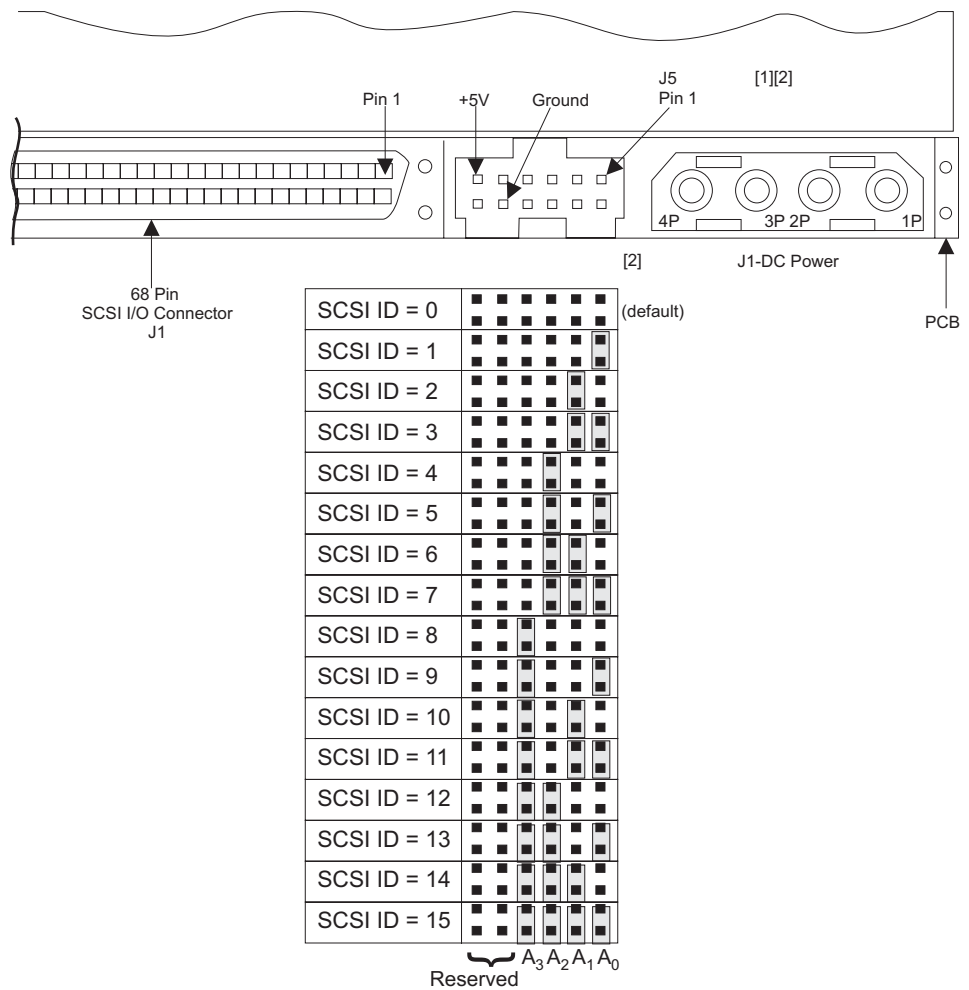

Figure 123. SAN Volume Controller 2145-4F2 disk drive jumpers
9. Check whether the old disk drive has any jumpers installed. If it does, install matching jumpers onto the new disk drive. Figure 123 shows the location of the jumpers.